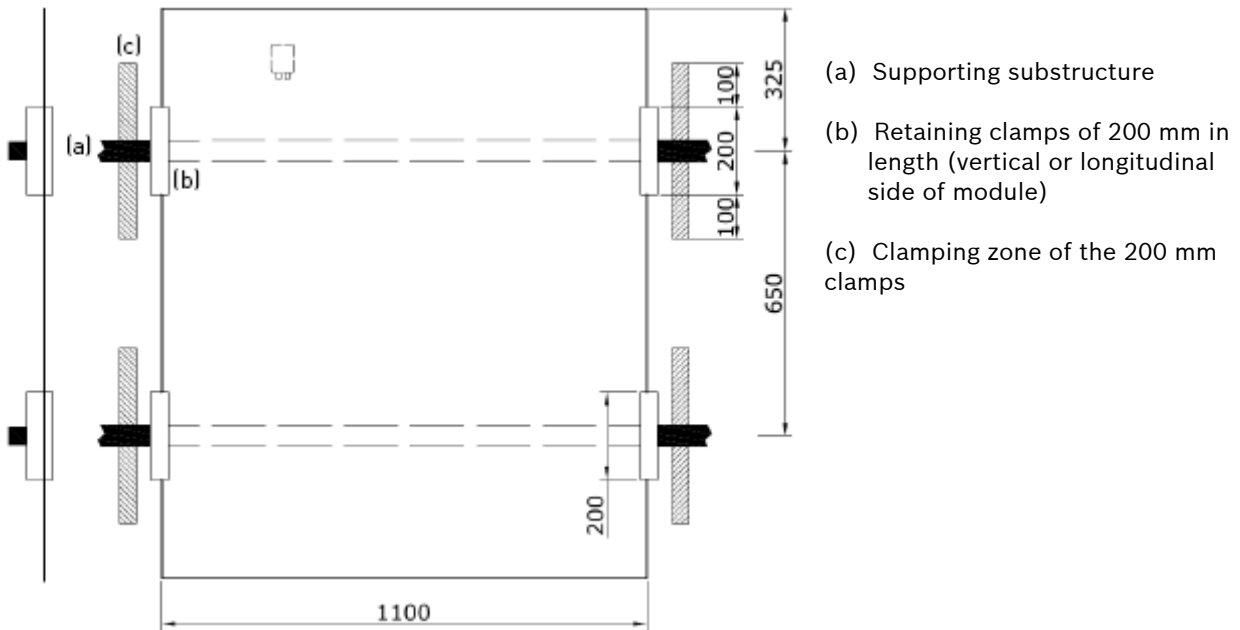
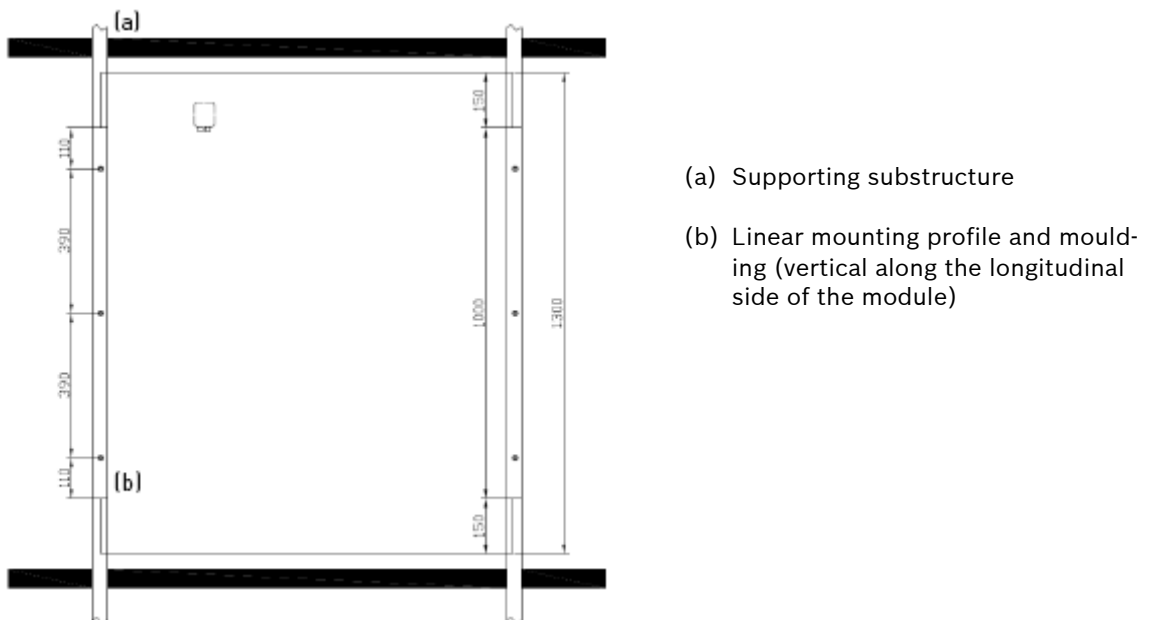

Fig. 1: Diagram showing mounting with 200 mm clamps (front and left-hand view, not to scale)
Fig. 2: Diagram showing linear mounting on both sides (front view, not to scale)
2. The solar modules must be mounted with clamps of at least 200 mm in length on the longitudinal side in the given clamping zones (Fig. 1). Alternatively, the clamps may be lengthened so that the solar modules are supported on two sides (Fig. 2). However, a minimum support length of 200 mm must be provided for both wind suction and pressure loads. This must be ensured with sections of adequate strength and the corresponding mechanical attachment.
11. The given spacing of the anchorage points for the vertical and horizontal retaining clamps must be observed (see Fig. 1). Screw torques are specified in the instructions supplied by the mounting system manufacturer to ensure permanently elastic support of the solar modules without undue play.